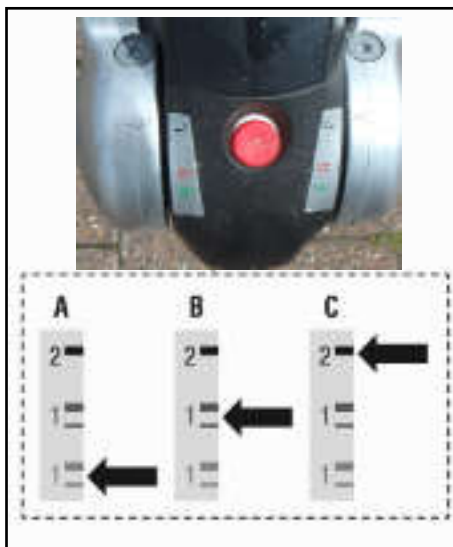

FIG. 5.
2. Push the stabiliser lever (fig.5/item 1) down until resistance is felt (i.e. the friction pads are in contact with the ball but not yet under pressure).
3. Check the position of the arrowhead on the arm of the stabiliser. If it lines up with the two green lines then the friction pads are still as new (Fig.5/A)
When the stabiliser lever is correctly applied, the arrowhead should link up with the black line marked 2 (Fig 5/C).